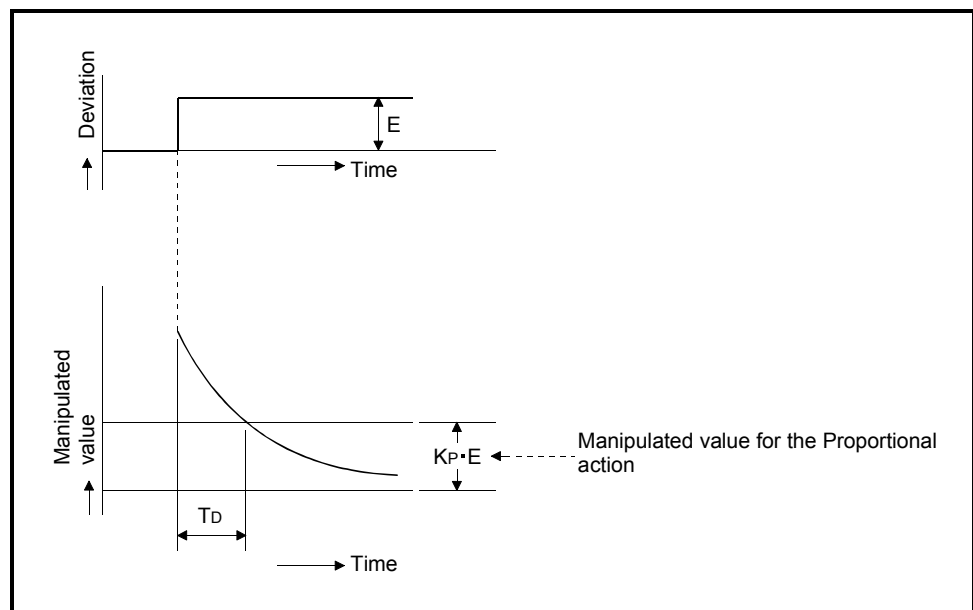

Fig. 1.11 Derivative action for step response
- (2) In the derivative action, the time from the deviation occurrence until the manipulation value of the derivative action becomes that of the proportional action is called the derivative time, and is indicated by T_D .
- (3) The derivative action for the step response when the deviation is constant is shown in Figure 1.11.
- (4) The derivative action is used as a PD action in combination with the proportional action, or PID action in combination with the proportional and integral actions.